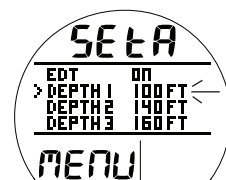

Fig. 104 - SET FREE DEPTH ALARM 1
- S (< 2 sec) when the pointer icon (>) is next to a selection will flash that item's Set Point (Fig. 104).